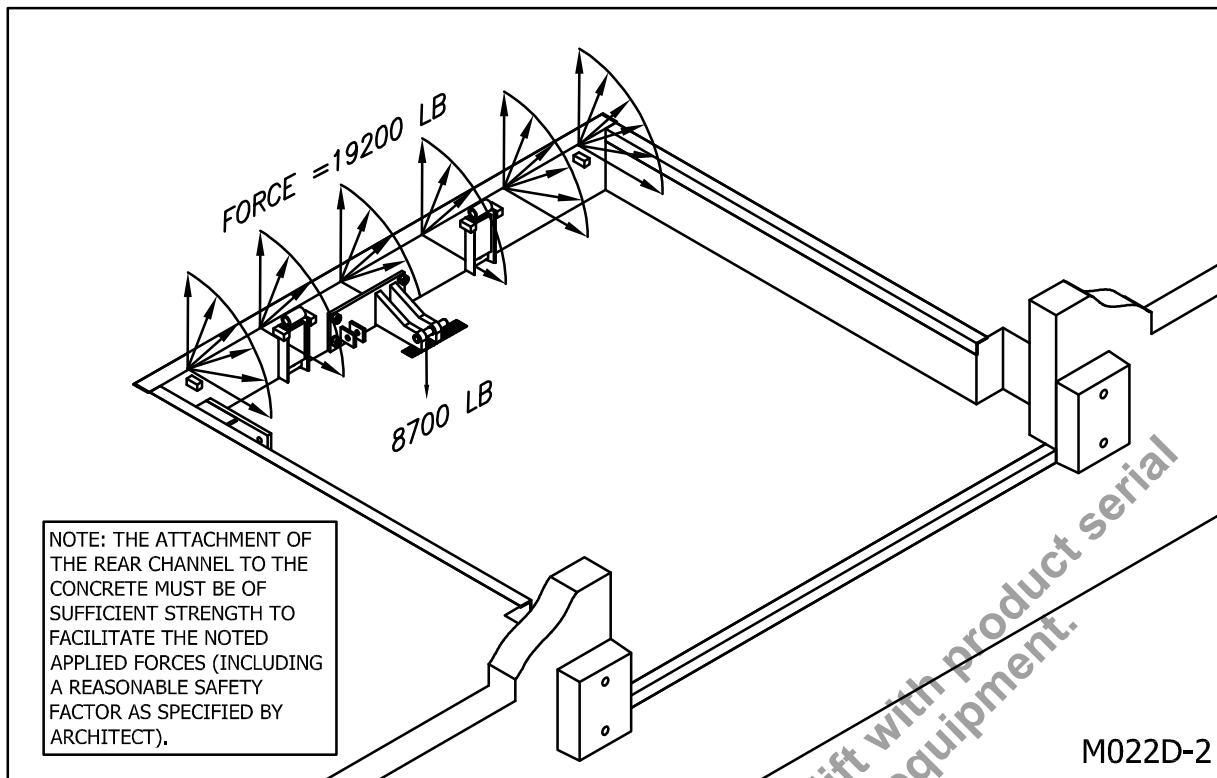
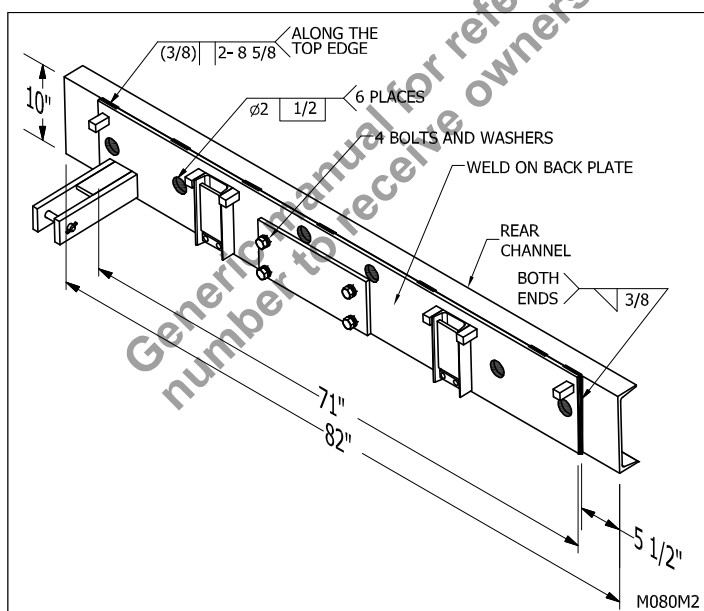

Figure 7: Draw Pull Forces Diagram
Figure 8: Weld on Back Plate to Existing Rear Channel
2. ___ Confirm pit curb angle/curb channels are properly installed and meet the force requirements as shown in "Figure 7: Draw Pull Forces Diagram" on page 11.
1. Confirm the rear channel is cast in place with sufficient strength to accept the forces applied (see “Figure 7: Draw Pull Forces Diagram” on page 11). Position the weld on back plate assembly firmly against the rear channel. Tack weld the Back Plate to the rear channel with tacks distributed evenly on the edges to be welded. This will eliminate or reduce warping. After tacking, plug weld using the holes provided in the Weld on Back Plate, and fillet weld the Weld on Back Plate to the rear channel as indicated in “Figure 8: Weld on Back Plate to Existing Rear Channel” on page 20.
1. ___ Weld on Back Plate to Existing Rear Channel (see “Figure 8: Weld on Back Plate to Existing Rear Channel” on page 20)